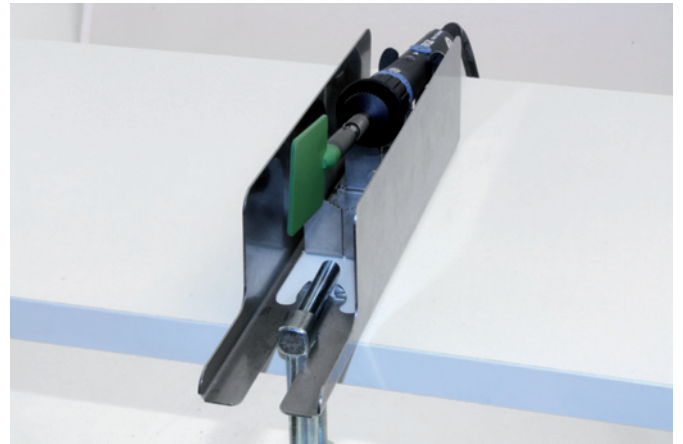

Fig. 4
- 4 First of all guide the cable through the rear retainer and insert the soldering iron TC to the rear (Fig. 4).